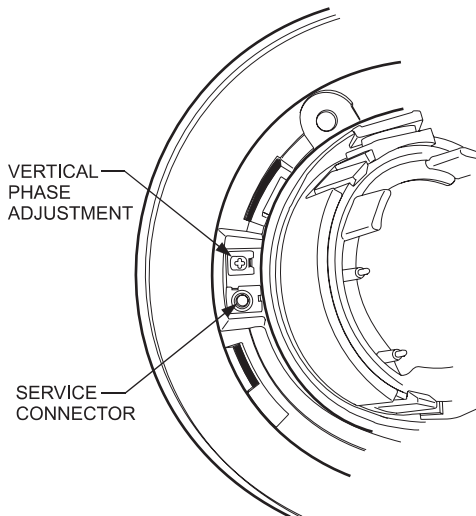

Figure 12. Vertical Phase Adjustment
2. Select a camera and synchronize it to the reference camera by turning the phase adjustment control (refer to Figure 12) clockwise or counterclockwise.